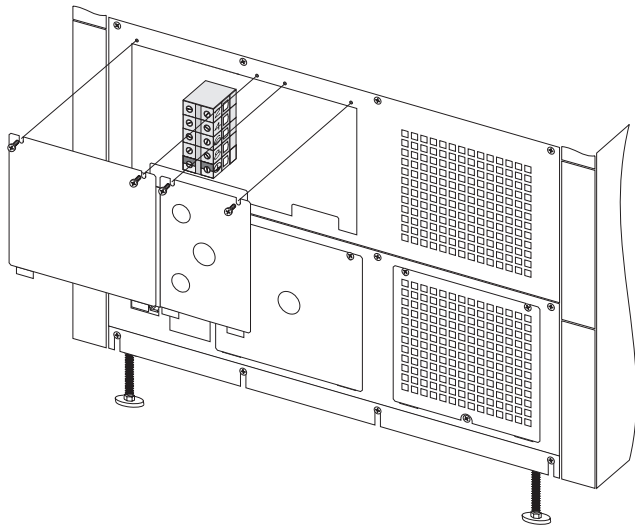

Fig. 4-10 Removal of Output Hardwiring Panels
1. Refer to Fig 4-10. Remove the four screws holding the output wiring entry panels to the rear of the Power Array. Remove only the screws indicated in the illustration. Set the screws and both panels aside temporarily.